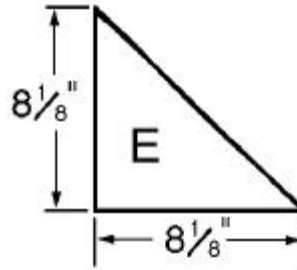

Figure 3
3. Measure and cut 7 triangular shelf pieces (E) from 1 x 10 pine. Each shelf should measure 8-1/8-inches long on two sides on the two sides to match the width of your cupboard backs (A and B). (See *Figure 3*). As a precautionary measure, double-check to make sure that both your cupboard backs conform to this width.